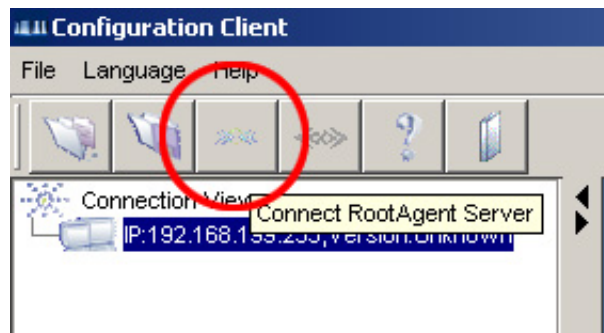
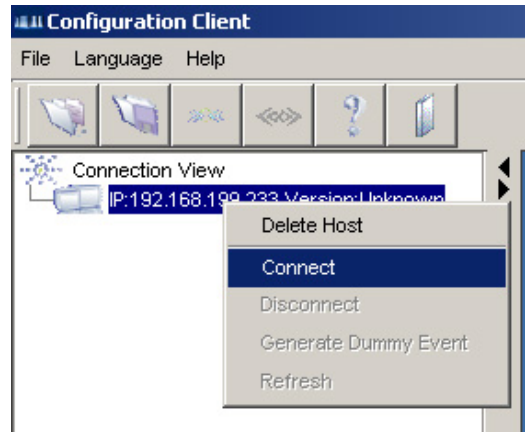

Figure 4-6: Connect Commands
Figure 4-7: Connect Commands
**Step 3.** The connected IP displays on the left of the **Connection View** window. Select the IP and click the **Connect Root Agent Server** icon (see **Figure 4-6**) or right-click on the displayed IP to display the **Connect** commands. (See **Figure 4-7**)